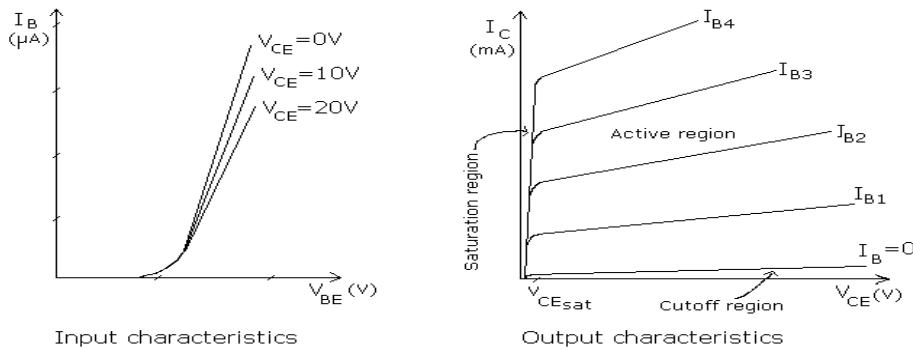

Figure 2.1.7: CE Configuration Input and Output characteristics.
Input Characteristics of Common Emitter configuration is a plot of input current  $I_B$  versus input voltage  $V_{BE}$  for various values of output voltage  $V_{CE}$ . As  $V_{BE}$  is increased,  $I_B$  increases. The characteristics curve is similar to diode characteristics. If  $V_{CE}$  is increased to higher constant value, then  $I_B$  decreases slightly as shown in Figure 2.1.7. This is due to Early effect.
- Active region:** The region to the right of  $V_{CE\text{ Sat}}$  above  $I_B=0$  curve (Figure 2.1.7), where the curves are linear. Note that,  $V_{CE} = V_{CB} + V_{BE}$ . If  $V_{CE} > V_{CE\text{ Sat}}$ , then  $V_{CB}$  becomes positive (i.e., C-B diode is forward biased).  $V_{CE\text{ Sat}}$  is around 0.3V for silicon transistor. If  $I_B > 0$ , then it means E-B diode is forward biased. When  $V_{CE}$  is increased,  $I_C$  increases slightly due to Early effect. Note that slope of curve is more than that of CB output characteristics. If  $I_B$  is increased,  $I_C$  also increases. When  $I_B=0$ ,  $I_C=I_{CEO}$ .
- Saturation region:** The region to the left of  $V_{CE\text{ Sat}}$  and right of y-axis (Figure 2.1.7). In this region E-B diode and C-B diode are both forward biased.
- Cut-off region:** The region below  $I_B=0$  curve (Figure 2.1.7). In this E-B diode and C-B diode are both reverse biased Transistor is said to be in OFF state since  $I_C$  is almost zero.